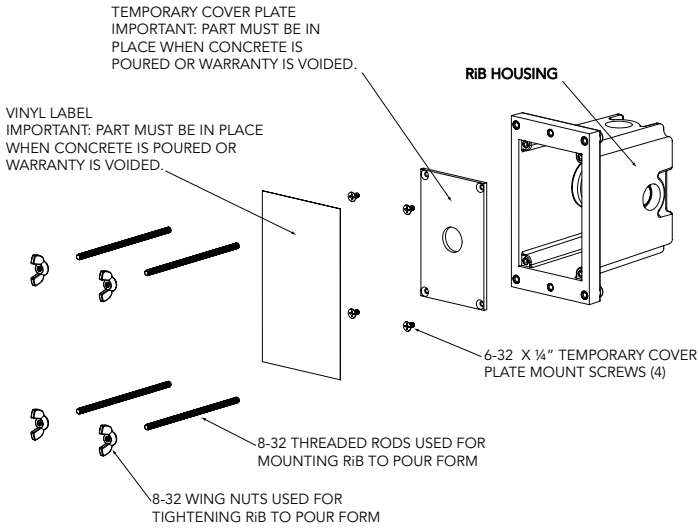

Figure 3
**IMPORTANT NOTE: Temporary cover plate and vinyl label must remain in place during pouring and curing of concrete (fig. 3).**
1. Install (4) threaded 8-32 rods (supplied) into RiB housing by piercing through vinyl label in specified location. Hand tighten until secure.